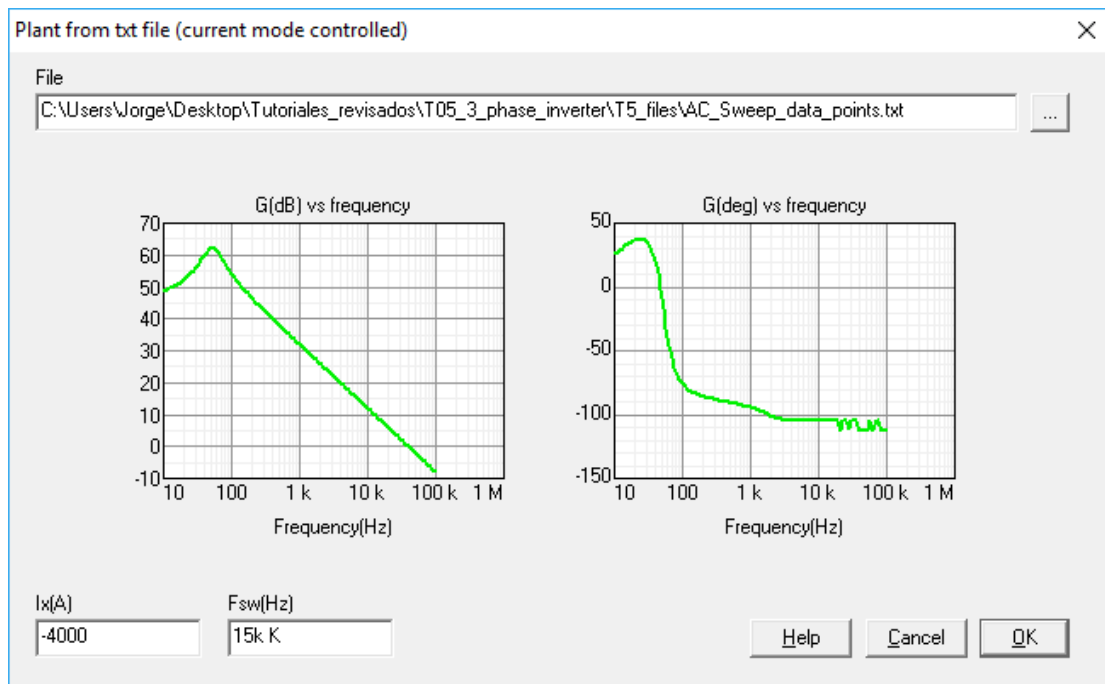

Figure 7: input data configured in SmartCtrl
2. Configure the input data and click OK to continue. See Figure 7.